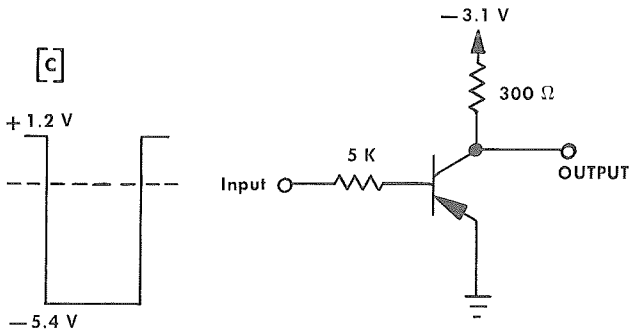

Fig. 3-4. Three examples of typical switching-transistor test specifications.
The values of V_{CC} , E_{gen} , and V_{BB} used in the Type 290 test system can be calculated from the transistor test specifications. Usually, test specifications appear in one of the three forms shown as example (A), (B), and (C) in Fig. 3-4. Example (A) has three test currents listed, (B) show the test circuit used, and (C) has both the current and test circuit given.
V_{CC} (example (A) in Fig. 3-4):
E_{gen} (example (A) in Fig. 3-4:
V_{BB} (example (A) in Fig. 3-4):
Whenever I_{B2} exceeds 1 ma , the Type 290 can no longer be used to establish V_{BB} . However, V_{BB} can be established by a switching pulse if the pulse can start at one voltage polarity and step to the other polarity. Such a switching pulse is shown in example (C) of Fig. 3-4. In example (C), the pulse starts at $+1.2$ volts to establish V_{BB} and steps to -5.4 volts for switching.
The pulse level needed to establish V_{BB} for testing the transistor in example (C) of Fig. 3-4 would be: